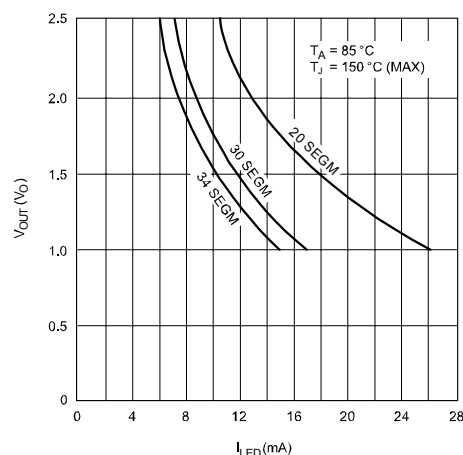

Figure 8.
- V_{OUT} should be regulated by user. See Figures 8 and 9 for allowable V_{OUT} vs. I_{OUT} operation.